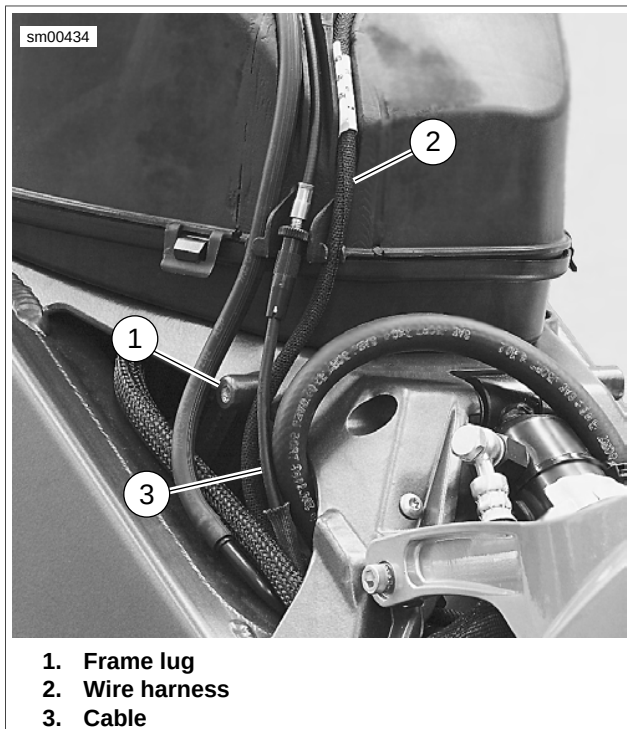

Figure 7-106. Correct Cable Routing Behind Frame Lug (Typical)
3. See Figure 7-106. Verify that the interactive exhaust cable (3) is routed behind the frame lug (1) before installing air intake cover.